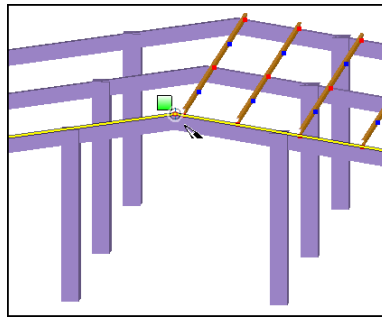

Figure 87: Specifying the reference point
- In the “Reference” category, click . Specify the reference point as the intersection of the beams (Figure 87).